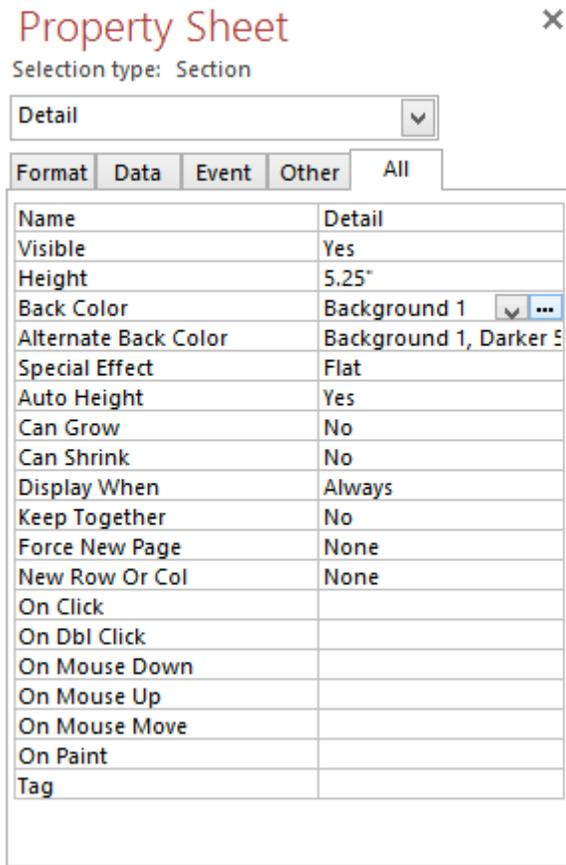

Figure 16: Property Sheet for the Detail Section
- Select the detail (grey, dotted/grid background) section and choose a color in the *Back Color* property, see (a) below and Figures 16 and 17;